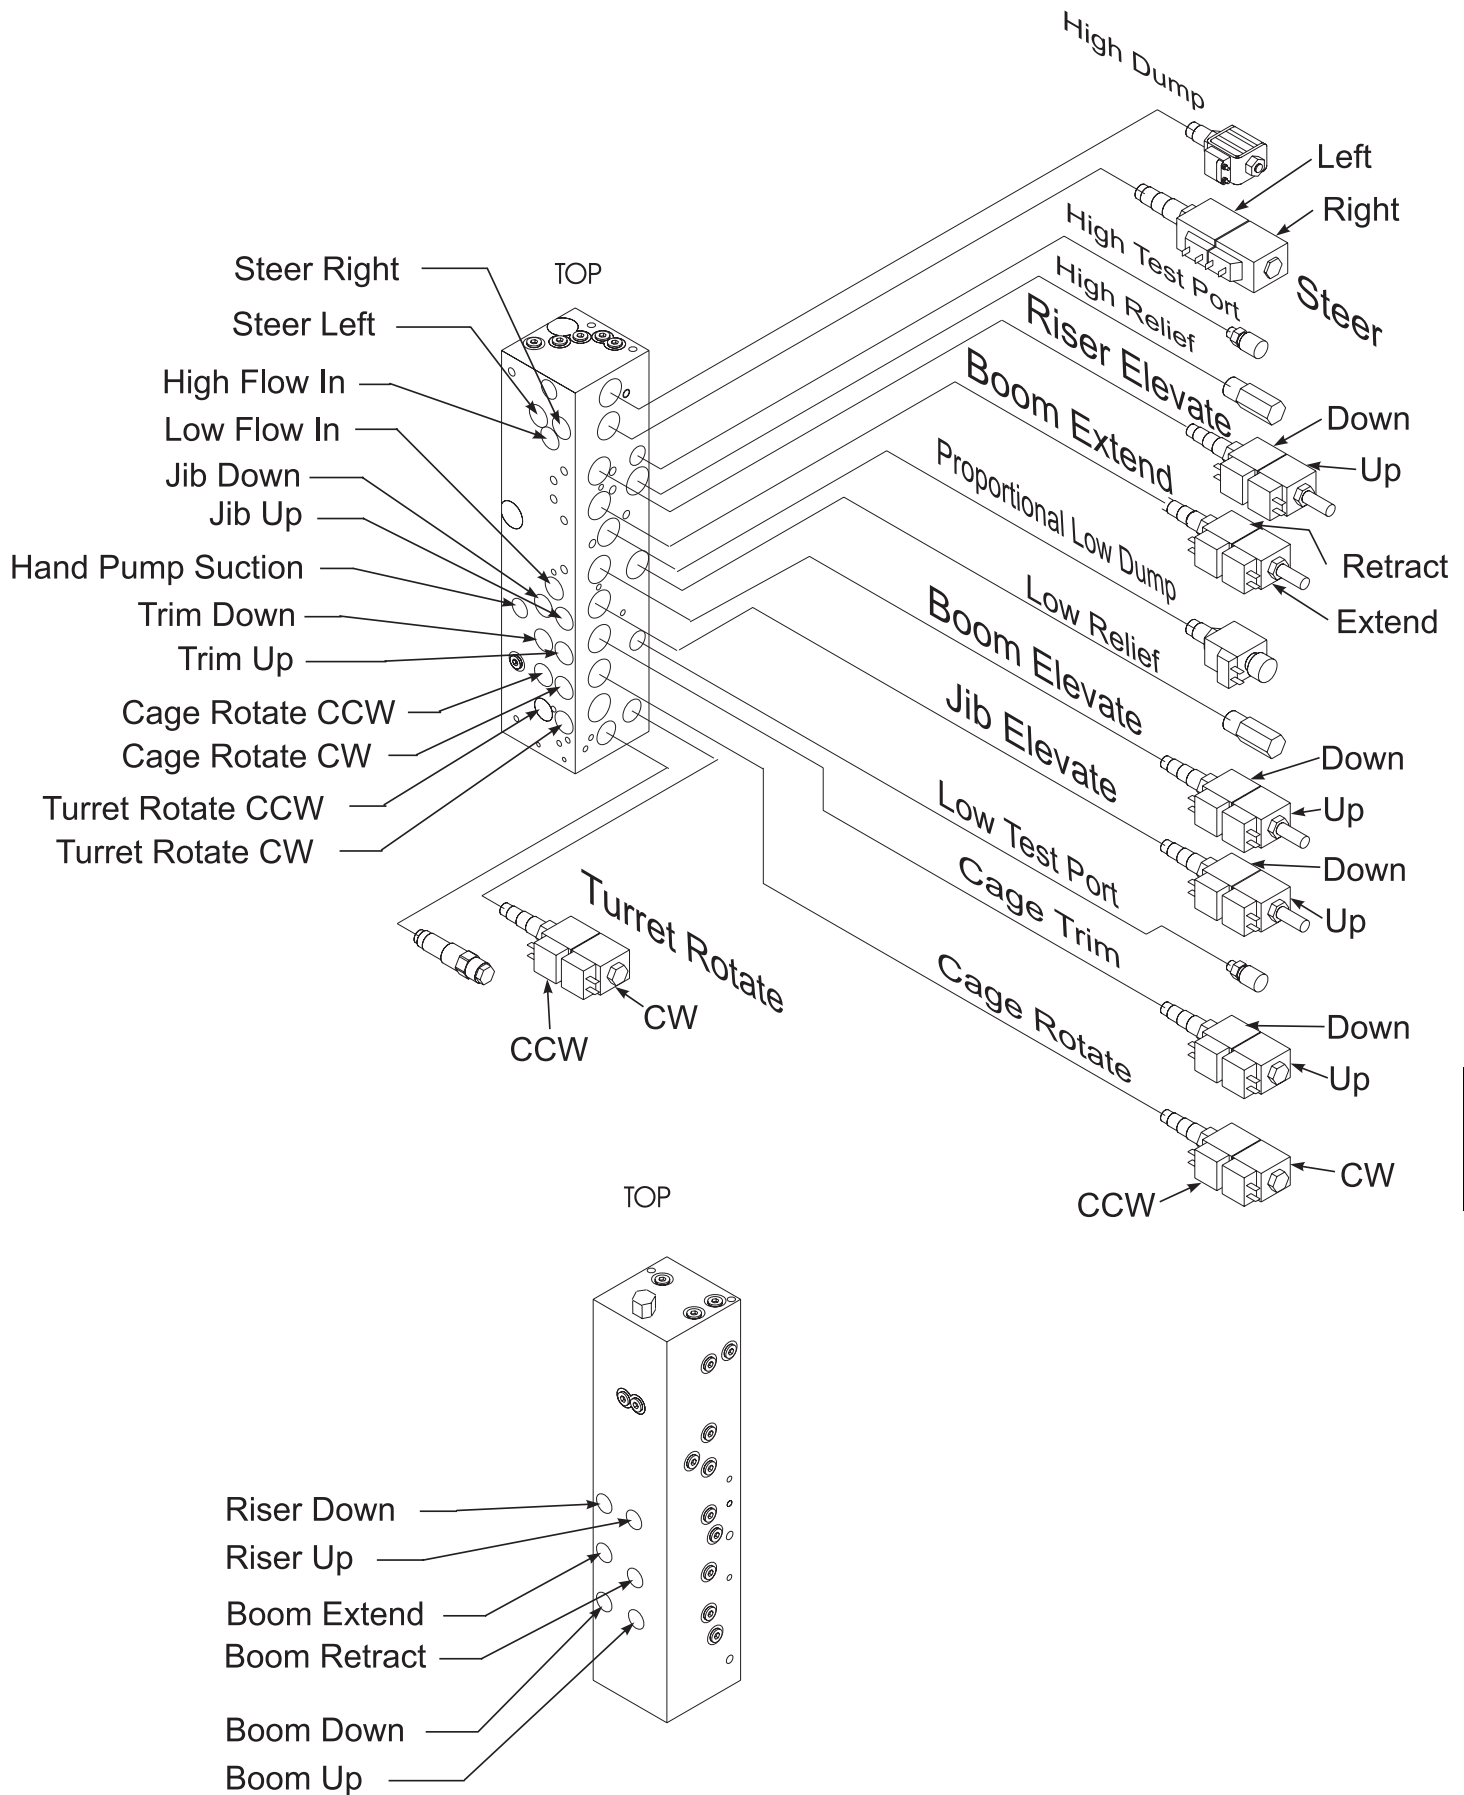

Figure 5-6: Hydraulic Valve Ports
**Note:** See figure 5-6 for hydraulic valve locations.